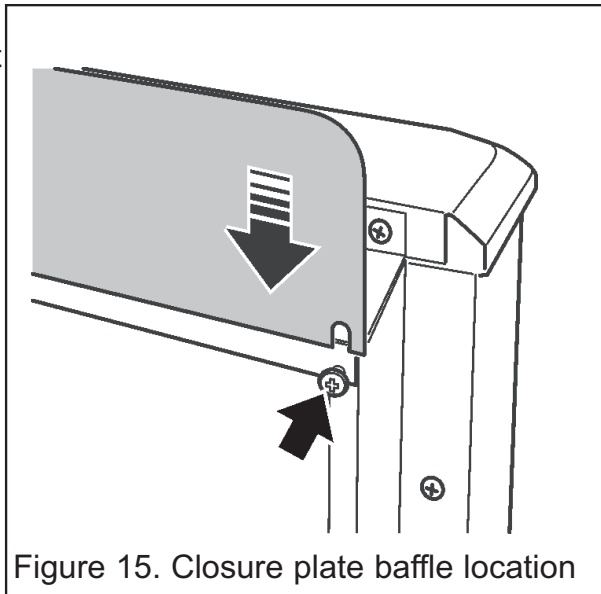

Figure 15. Closure plate baffle location
3. Locate the baffle onto the screws as in figure 15. The baffle is angled and should lean towards the rear of the fire.